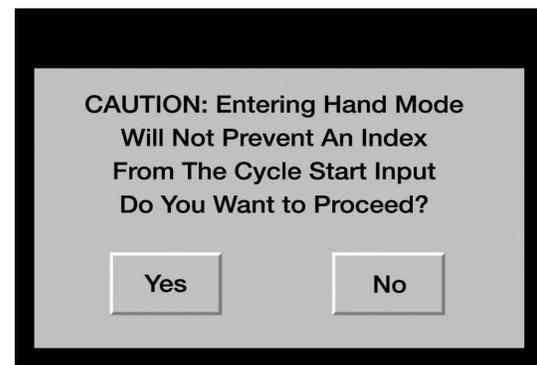

Figure 5.4 - Caution Screen
**NOTE** - When changing from Auto to Hand a **CAUTION Screen** as shown in Figure 5.4 will appear.